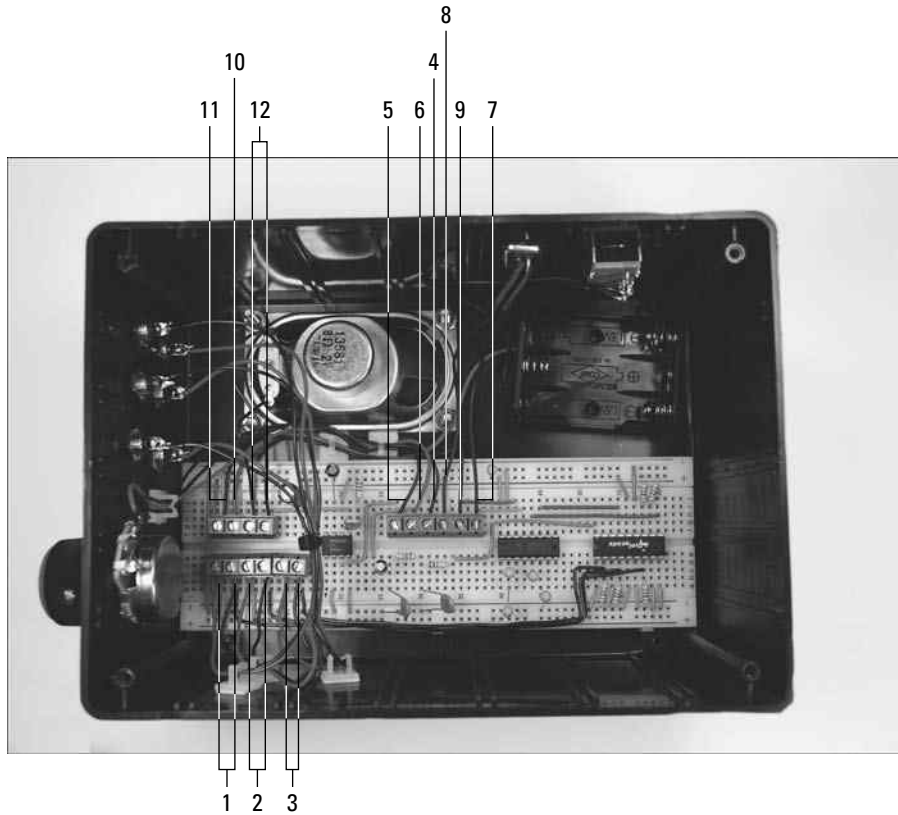

Figure 7-15:
11. Strip insulation from the ends of cut the wires, insert them in the terminal blocks, and secure with wire clips, as shown in Figure 7-15.